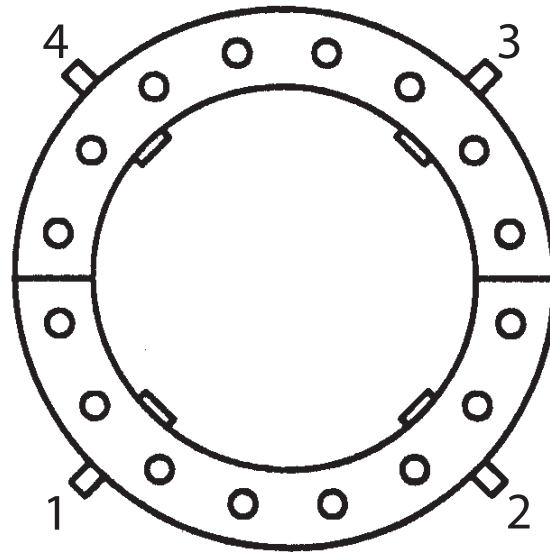

Figure 14: Adjustable Bars
1. Clean the mating surfaces and the contact surface of the Adjustable Bars and the Jackscrews on each half of the Clamshell (refer to Fig. 14).
4. Close the two (2) halves of the Clamshell around the pipe, and keep the mating surfaces clean.
5. Ensure that the Alignment Pins seated the two (2) halves correctly.